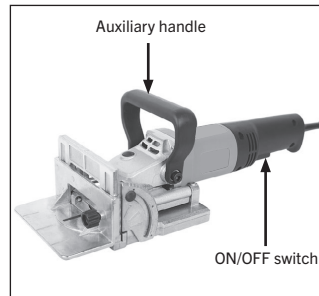

Fig. 8: Location of auxiliary handle and ON/OFF switch
4. While firmly holding auxiliary handle (see Figure 8) in one hand, squeeze ON/OFF switch with opposite hand. Motor should run smoothly and without unusual problems or noises.